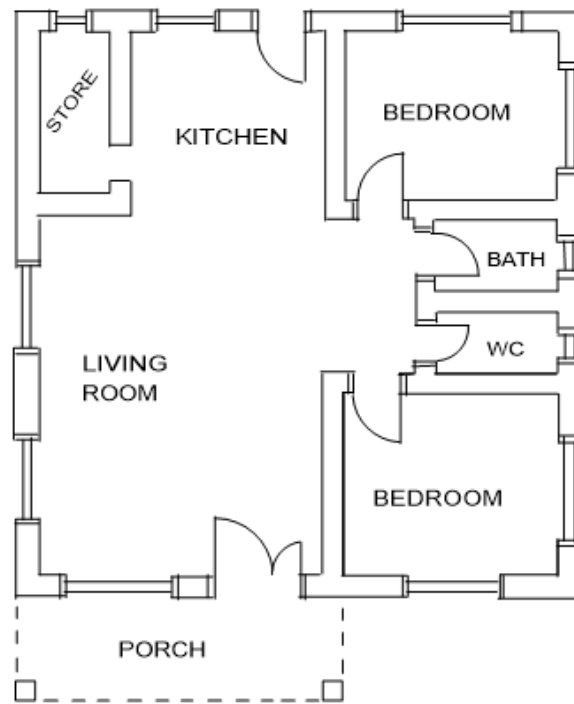

Figure 3.1.9: Floor Plan
- A provided floor plan (to scale) (Figure 3.1.9)
1. **Review the Floor Plan** (Figure 3.1.9)